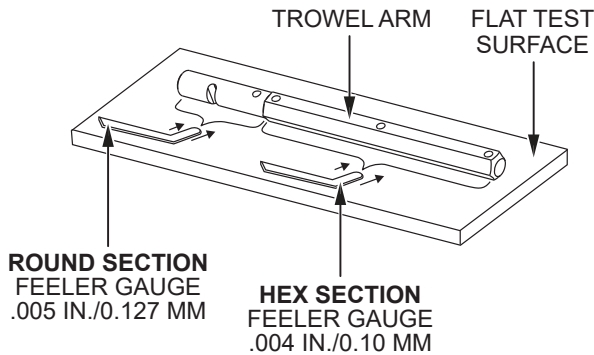

Figure 71. Trowel Arm Inspection
1. Place the trowel arm on a thick steel plate, granite slab, or any other surface which is **true** and **flat** (Figure 71).
2. Check each of the six sides of the trowel arm hex section (Figure 71). A feeler gauge of .004 inch (0.10 mm) should not pass between the flat of the trowel arm and the test surface along its length on the test surface.
3. As the flat hex section rests on the test surface, use a feeler gauge of .005 inch (0.127 mm) to check the clearance between the round shaft section and the test surface. Rotate the arm to each of the flat hex sections and check the clearance between the round shaft and the test surface. The clearance between the round shaft and the test surface should be identical for each hex section. See Figure 71.